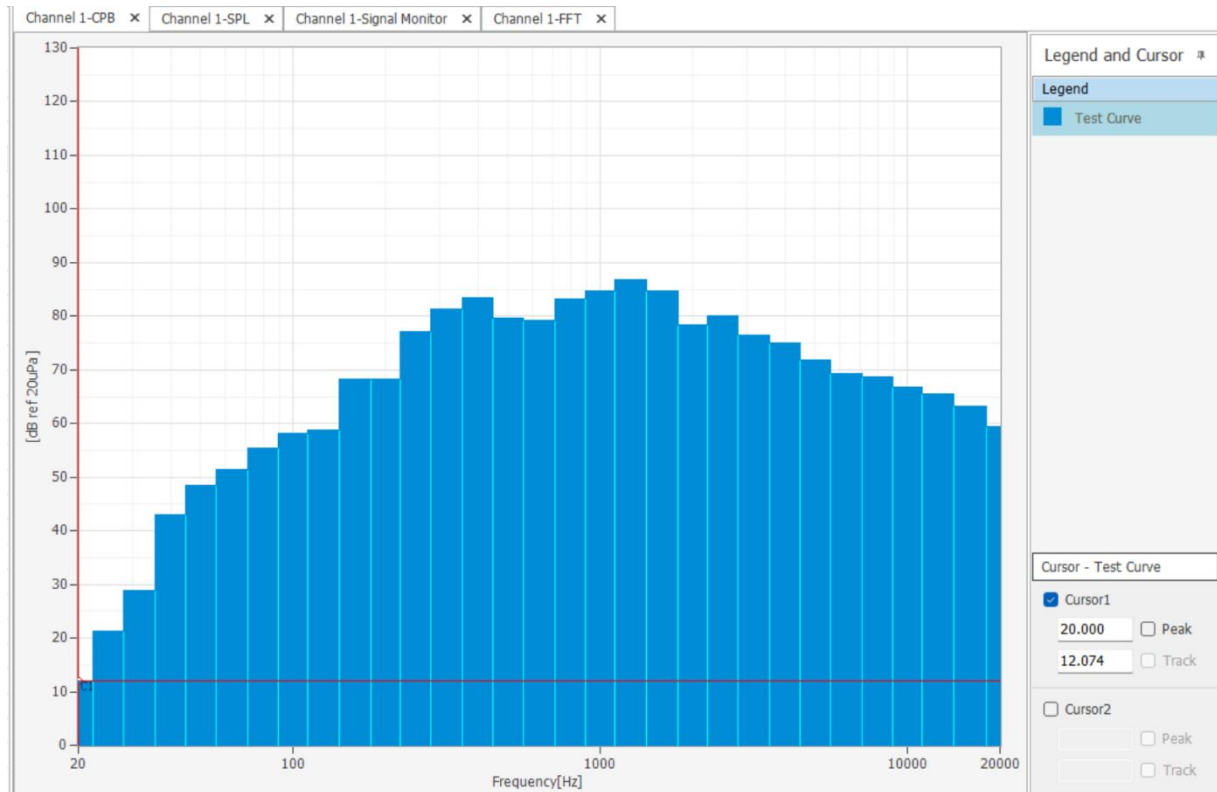

Figure 16. Cursor Function
- After selecting Cursor 1 or Cursor 2, the corresponding cursors C1 and C2 will appear in the waveform window, at the same time show the corresponding value of the cursor in figure 16;